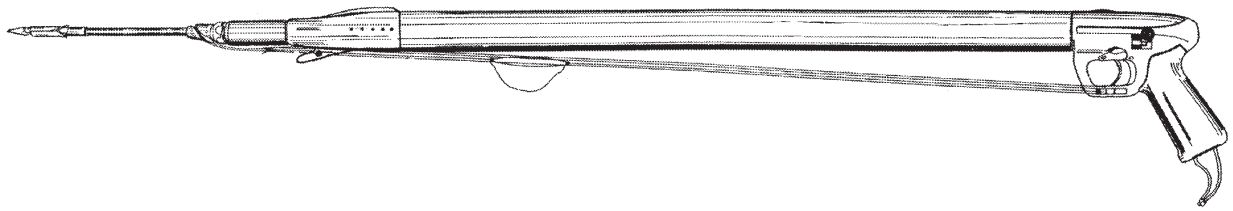

Fig. 2
- c) Wind the shock line at least twice, from the line release on the handle to the line holder on the nose cone (see Fig. 2)
- 7) After the gun has been loaded, the shock line should immediately be wrapped. Take the shock line at the shaft end and wrap it around the line release at the handle then around the line retainer on the nose cone until all line is used. The elastic expansion should be one the last wrap and will provide the necessary tension to keep the shock line in place (Fig. 2)
MONTAGE DE LA DRISSE (Fig. 2)
Enrouler la drisse au moins deux fois entre le largeur automatique et l'ogive. (Fig. 2)